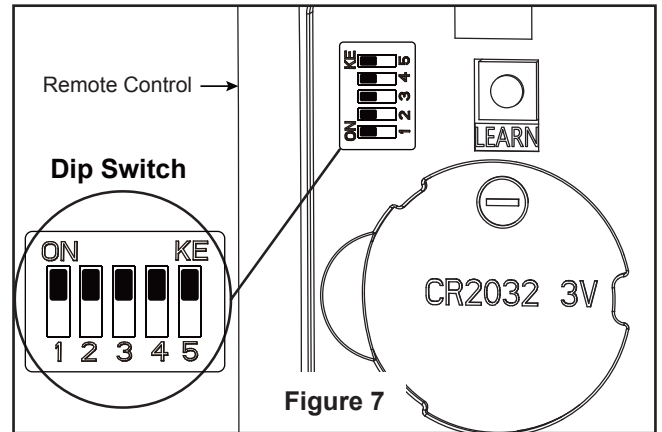

Figure 7
7. Assemble the light kit wire cover to the light plate assembly. Replace the removed screws from Step 3 and secure all three screws. (Figure 7)
9. To set the remote code in the same positions as the receiver, use a small screwdriver or ball point pen (neither included) to slide dip switches firmly up or down. (Figure 7)
7. Select your WiFi router and enter the WiFi password to connect your fanSync WiFi receiver. It will take 1-2 minutes to connect. After your WiFi receiver is connected, you can now name your ceiling fan in the APP and customize your settings. (Figure 7)